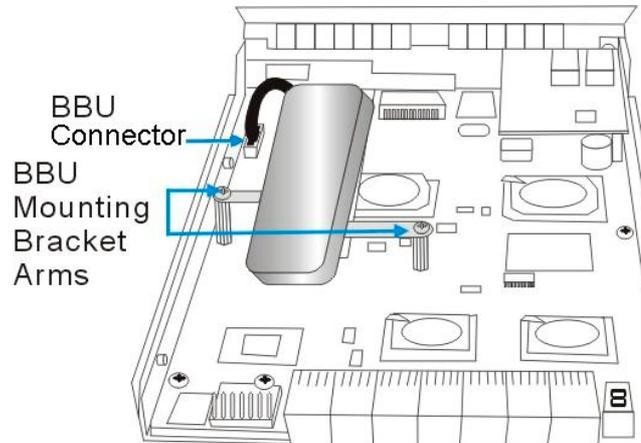

Figure 2-1: Pre-installed BBU
Step 1. Remove the pre-installed BBU module. The BBU module is connected to the board through a connector at the back of the controller board (see **Figure 2-1**). Two (2) retention screws secure the BBU module to the two (2) spacers on which it is mounted (see **Figure 2-1**). To remove the BBU module, disconnect
Step 6. Re-install the BBU module. Once the DIMM module has been replaced, make sure that the new DIMM module has been correctly installed. After the DIMM module has been properly installed, the BBU module must be re-installed. To do this mount the BBU correctly on the pre-installed spacers on the controller board (see *Figure 2-1*), re-insert the retention screws to secure the BBU to the controller board, and reconnect the BBU module to the connector at the rear of the controller board. (See *Figure 2-1*).